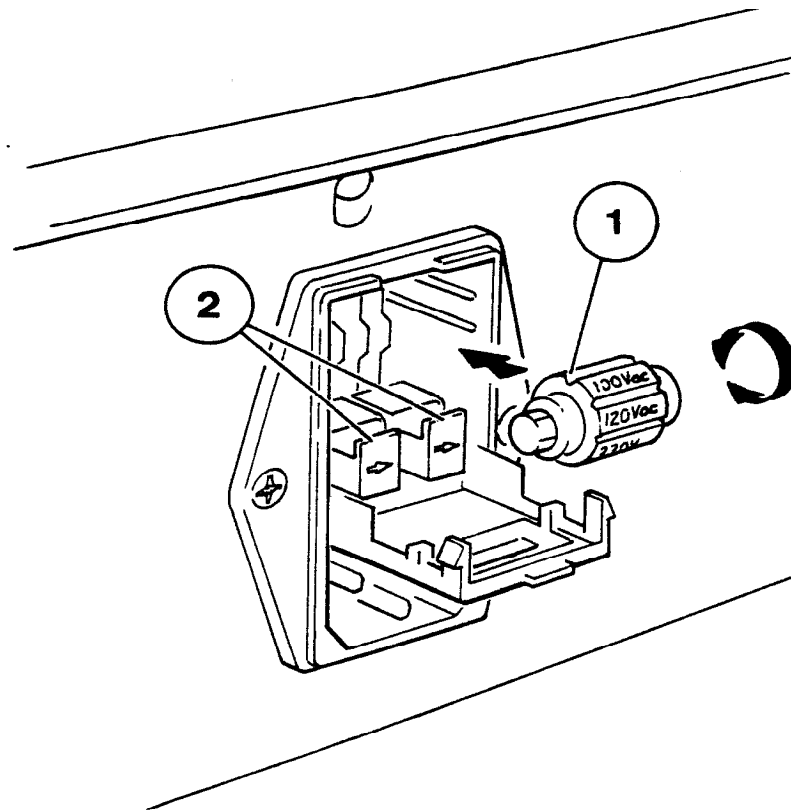

Figure 6.3 Voltage Selector and Fuse
4. Open the voltage selector compartment and withdraw the voltage selector (item 1, Figure 6.3). To replace fuses continue with paragraph 5; to change the operating voltage continue with paragraph 7.
5. Slide out the two fuse holders (item 2, Figure 6.3), and remove the fuses.